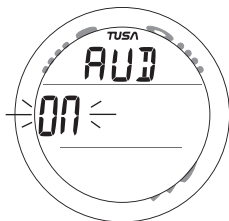

Fig. 40 - SET AUDIBLE ALARM
**SET AUDIBLE ALARM**, information includes (Fig. 40):